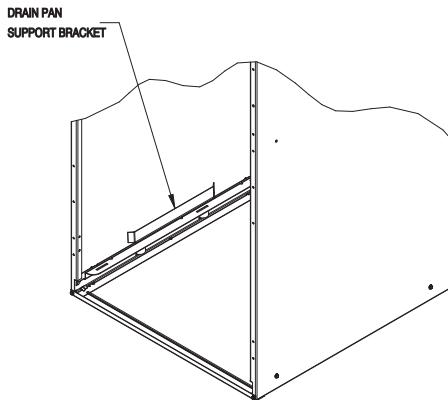

Fig. 6 – Drain Pan Support Bracket
5. Remove horizontal drain pan support bracket from coil support rail on left side of unit and reinstall on coil support rail on right side of unit (Fig. 6).